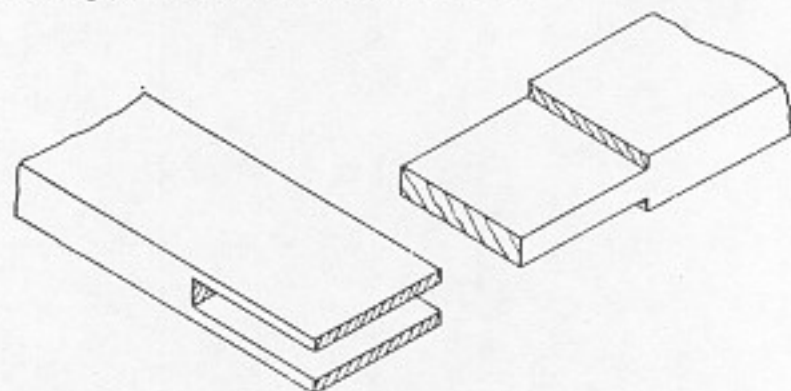

Fig. 259. Slip joint.
4. The waste pieces are chiseled out and the members of the frame are fitted together. Chiseling is done halfway from each side (Fig. 259). When gluing this joint, the corners are clamped with a hand screw in the same way that a spline miter joint is clamped (Fig. 235).